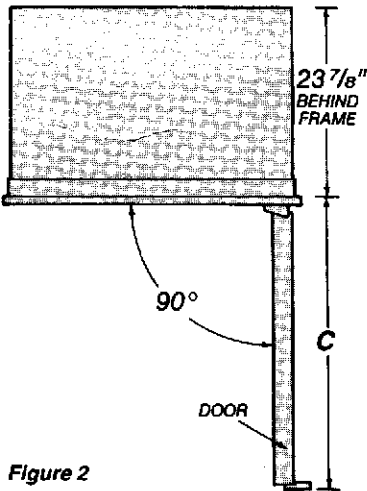

Figure 2
**IMPORTANT: For proper operation and use the door must open a minimum of 90°. A minimum 2" filler must be used in corner installations to assure a 90° door opening. Remember to allow enough clearance out of unit for full door swing. Minimum door clearance listed in Figure 2.**